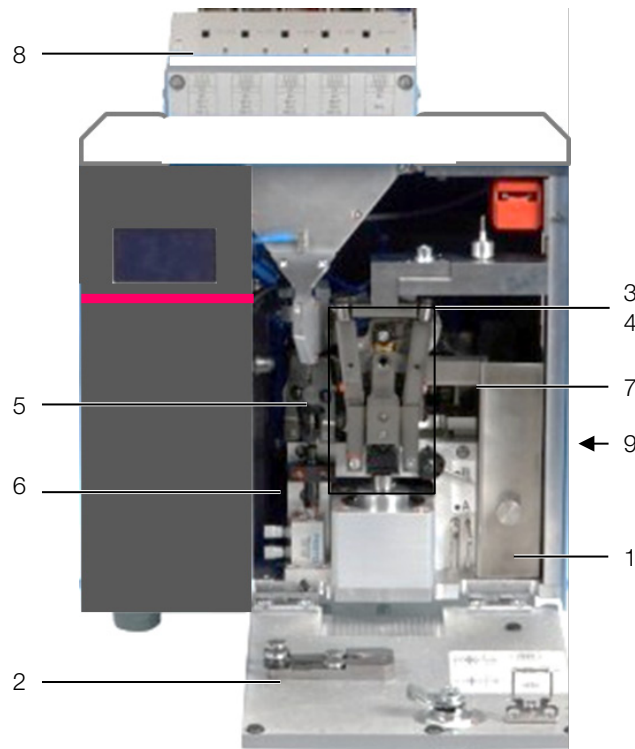

Fig. 16: Maintenance item overview
- Release the screws and remove the cover (fig. 16, item 8)